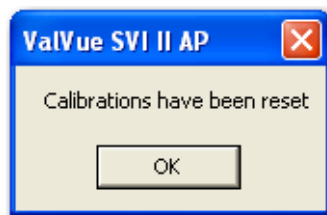

Figure 109 Reset to Factory Cal Confirmation Dialog
2. Click **OK** and Figure 109 appears.